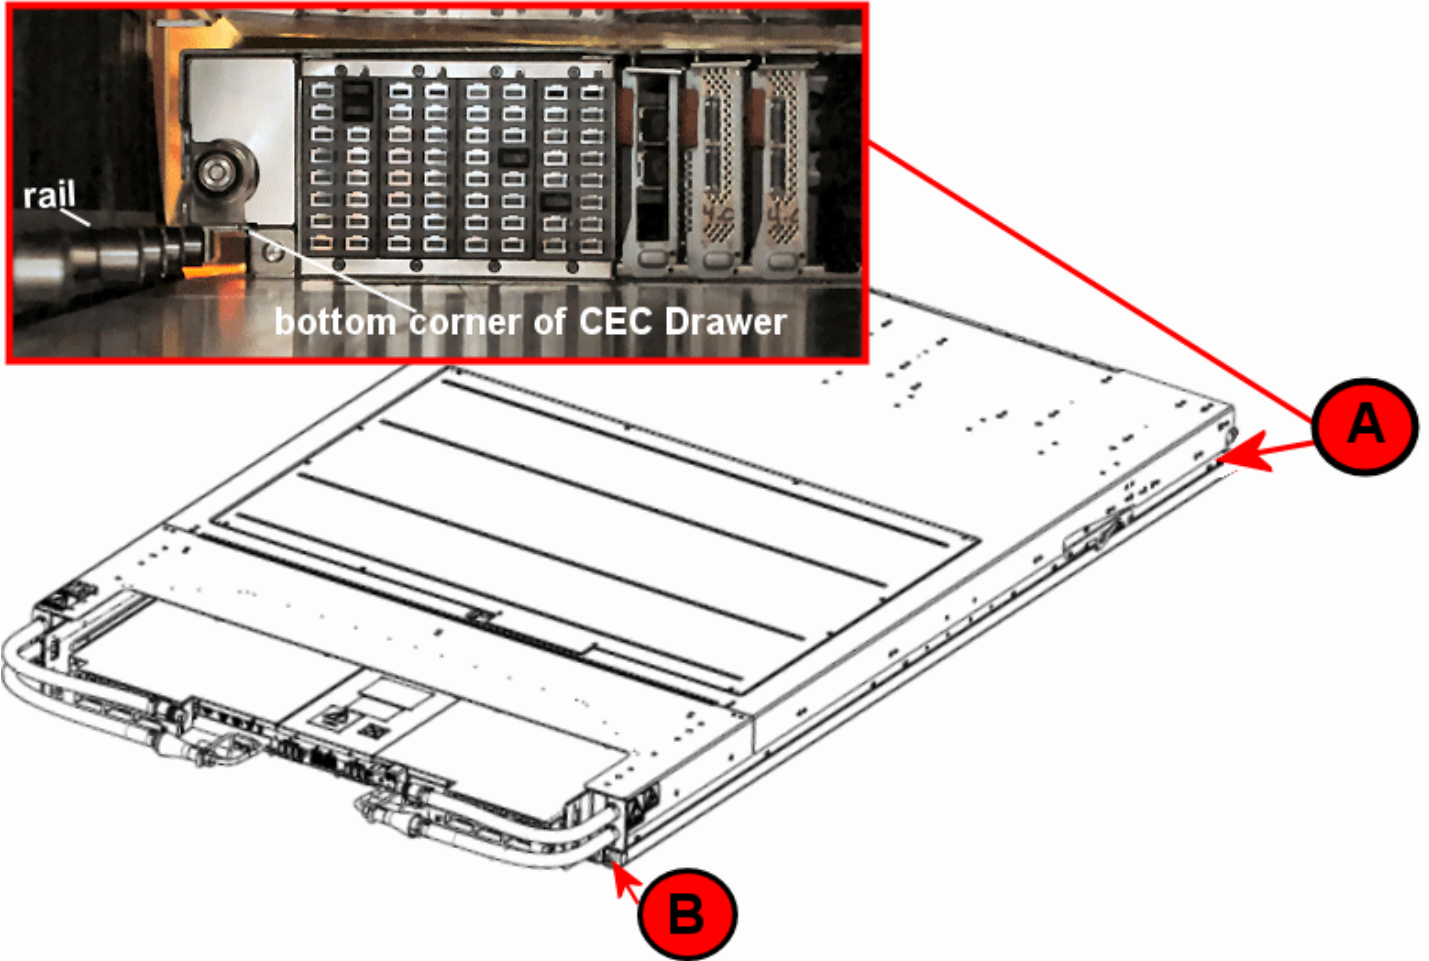

Figure 36 CEC Drawer lined up with Slide/Rail
- STEP 61 Raise the lift tool back to the appropriate EIA location of the rack if previously lowered. Position the lift tool height such that CEC drawer channels will roll off of the lift tool platform and onto the CEC Rails. Line up the sides of the CEC Drawer (A) with the slide mechanism on the rail as shown in Figure 36.